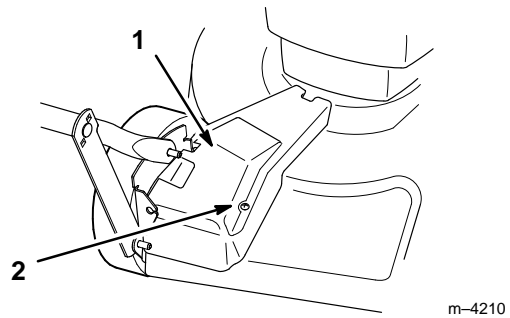

Figure 28
1. With the engine turned off, remove the bolt securing the belt cover (Fig. 28) to the mower housing.